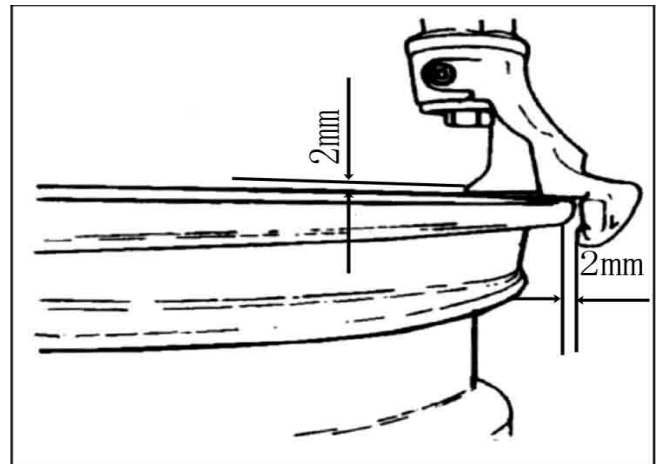

FIG 19
5.1.3 Position the hexangular shaft (FIG 2-3) to the working position to make the demount tool close to the rim of the wheel. And use the hand wheel (FIG 7-2) to push against the rocker arm and then use the lock handle (FIG 2-17) TO LOCK. The demount tool will automatically move a little of gap (FIG19).